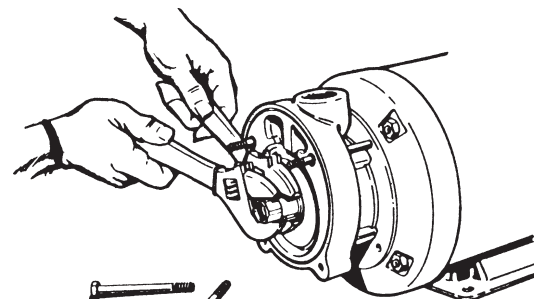

FIGURE 21
- n. Place a second crescent wrench over the nut and tighten in a clockwise direction until it is secured. Refer to Figure 21.
6. Place the cover over the studs and install the two (2) $\frac{3}{8}$ " nuts and two (2) $\frac{3}{8}$ " x 4" bolts. Tighten the nuts and bolts systematically, alternating diagonally across the cover. Do not overtighten the nuts and bolts; final adjustment will be made after the unit is in operation.